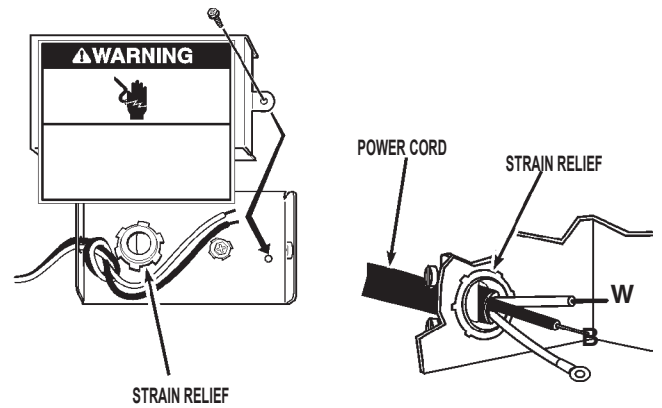

FIGURE 2
3. Install metal strain relief in hole in the back of terminal box. See figure 2.